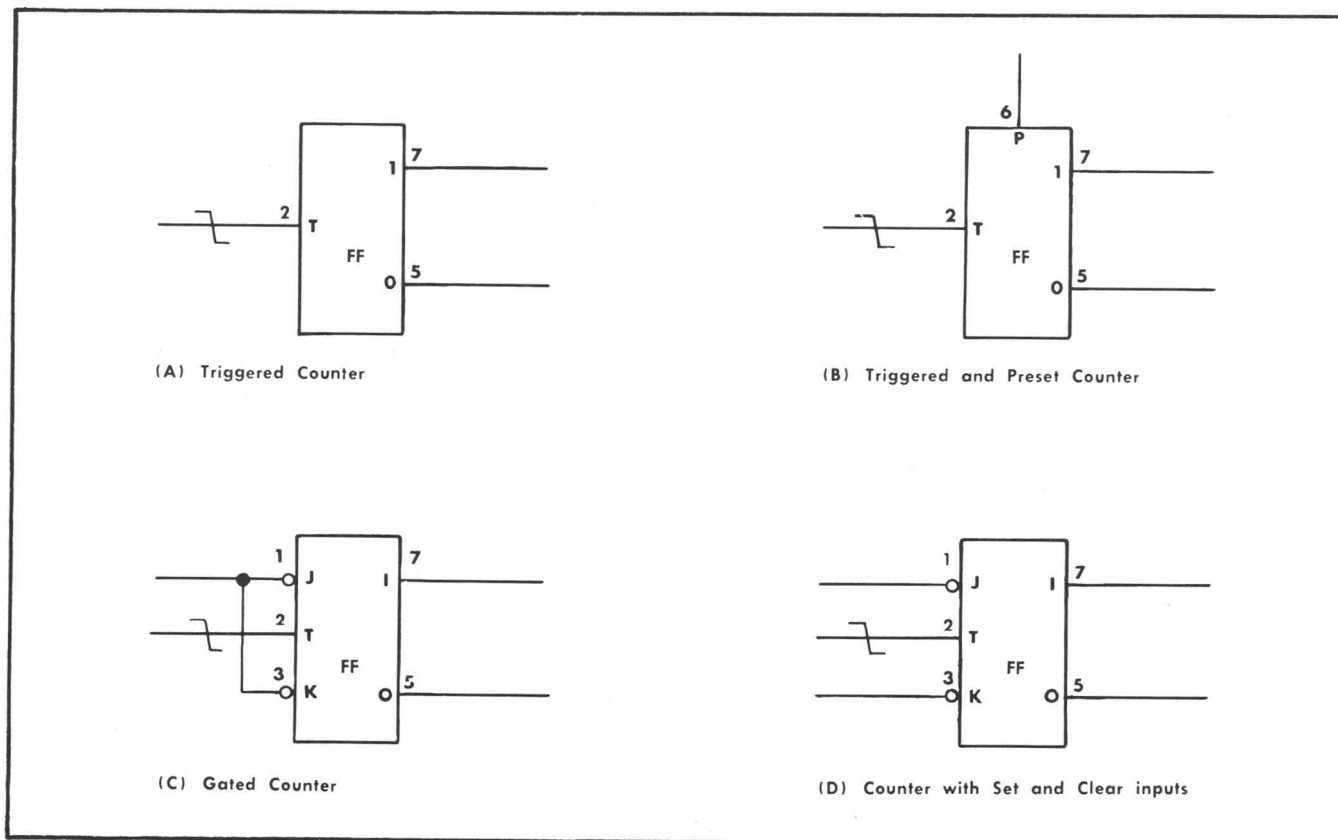

Fig. 3-6. Type F μ L 923 micrologic symbols and configurations.
Fig. 3-6 (A) shows the basic configuration when using the Type F μ L 923 as a triggered divide-by-two counter. To trigger, a negative-going transition is required at pin 2. The output pins (5 and 7) exchange polarity each time a negative-going transition arrives at pin 2. For example, the first trigger at pin 2 may cause pin 5 to go low. The next trigger sets pin 5 high. Pin 5 will go low every other trigger into pin 2, resulting in a divide-by-two countdown. When pin 5 is low, pin 7 is high and vice versa, similar to the two sides of a multivibrator.
In Fig. 3-6 (B), pin 6 is shown as an active element. This pin is typically used to preset the flip-flop so that the output pins start with the desired polarity at a certain time. When pin 6 is high, pin 5 will be high and pin 7 will be low. The high at pin 6 overrides any trigger input at pin 2 so that
A gated counter is illustrated in Fig. 3-6 (C). In this configuration, operation is similar to the triggered counter except that the flip-flop is inhibited from changing states during the time that pins 1 and 3 are high. When pins 1 and 3 are low, negative-going transitions at pin 2 will trigger the flip-flop in the normal manner.
In Fig. 3-6 (D), separate controlling signals are coupled into pins 1, 2 and 3. As in the gated counter, if pins 1 and 3 are both high, pin 2 cannot trigger the flip-flop. If pin 1 is high and pin 3 is low, the next negative-going transition at pin 2 will trigger the flip-flop so that pin 7 is high and pin 5 is low. If the flip-flop is already in that state when the trigger arrives at pin 2, no change will occur.